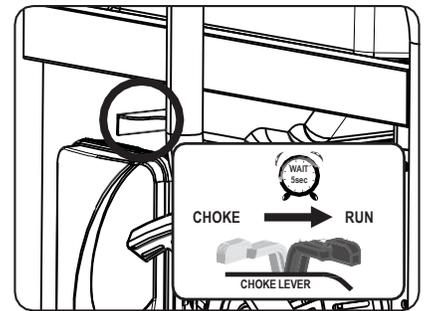

Fig 13
- Let engine run for several seconds and then gradually, as engine warms up, slide the choke lever towards the “RUN” position until the choke is fully at the “RUN” position. (See fig 13)